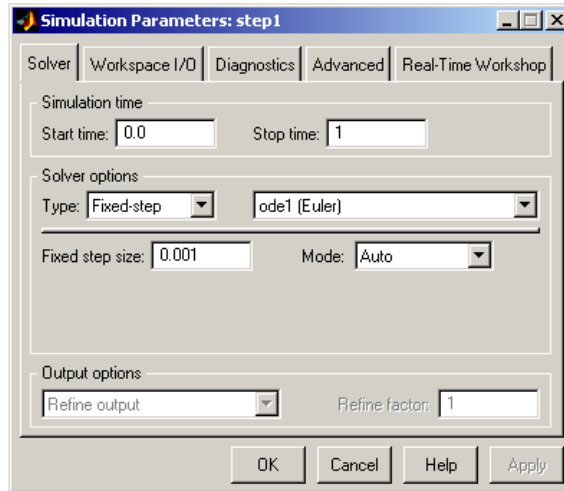

Figure 1.2: Simulation Parameters Settings
- The next step is to run the simulation. Before running the simulation, do the simulation parameters settings. To do this go to the Simulation menu and select simulation parameters. Set the parameters as shown in Fig. 1.2